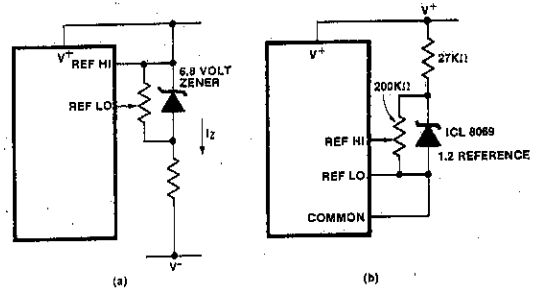

Figure 4: Using an External Reference
The limitations of the on-chip reference should also be recognized, however. The reference temperature coefficient (TC) can cause some degradation in performance. Temperature changes of 2 to 8 $^{\circ}\text{C}$ , typical for instruments, can give a scale factor error of a count or more. Also the common voltage will have a poor voltage coefficient when the total supply voltage is less than that which will cause the zener to regulate (<7V). These problems are eliminated if an external reference is used, as shown in Figure 4.